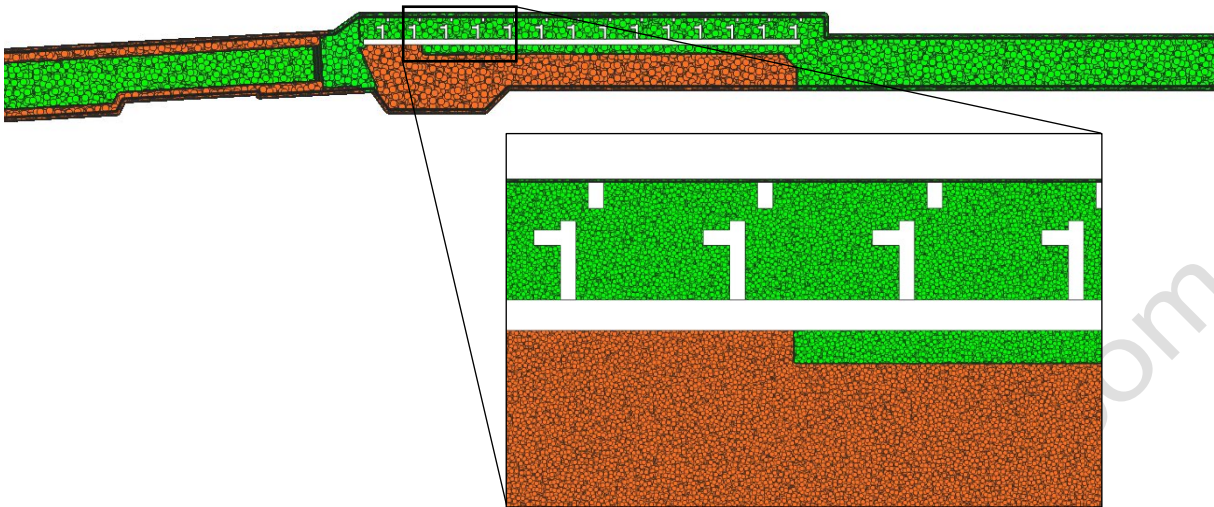

Figure 4: Polygons after having applied the Random Points inside Polygons tool.
3. Repeat the same process for all polygons shown in Figure 4.